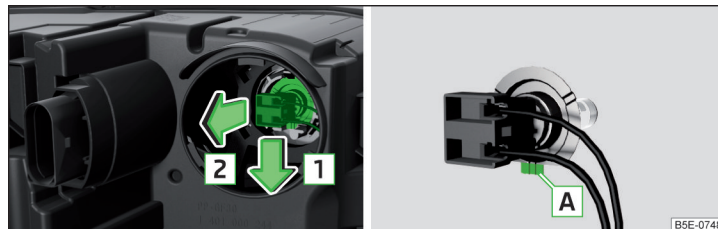

Fig. 357 Changing the bulb for the main beam
- › Disconnect the connector with the light bulb in the direction of arrow **1** » Fig. 357.